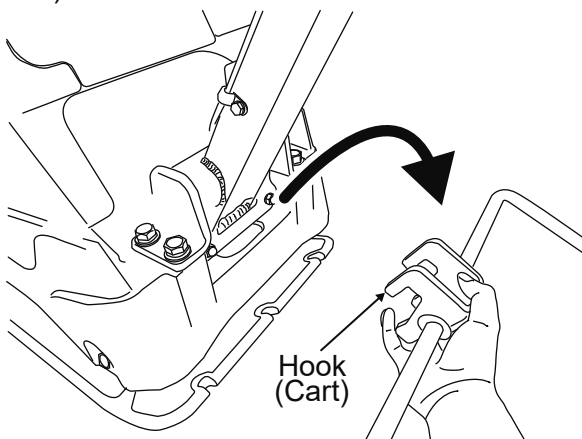

Fig.34
- 3 Remove the cart by removing the hook. (Fig. 34)